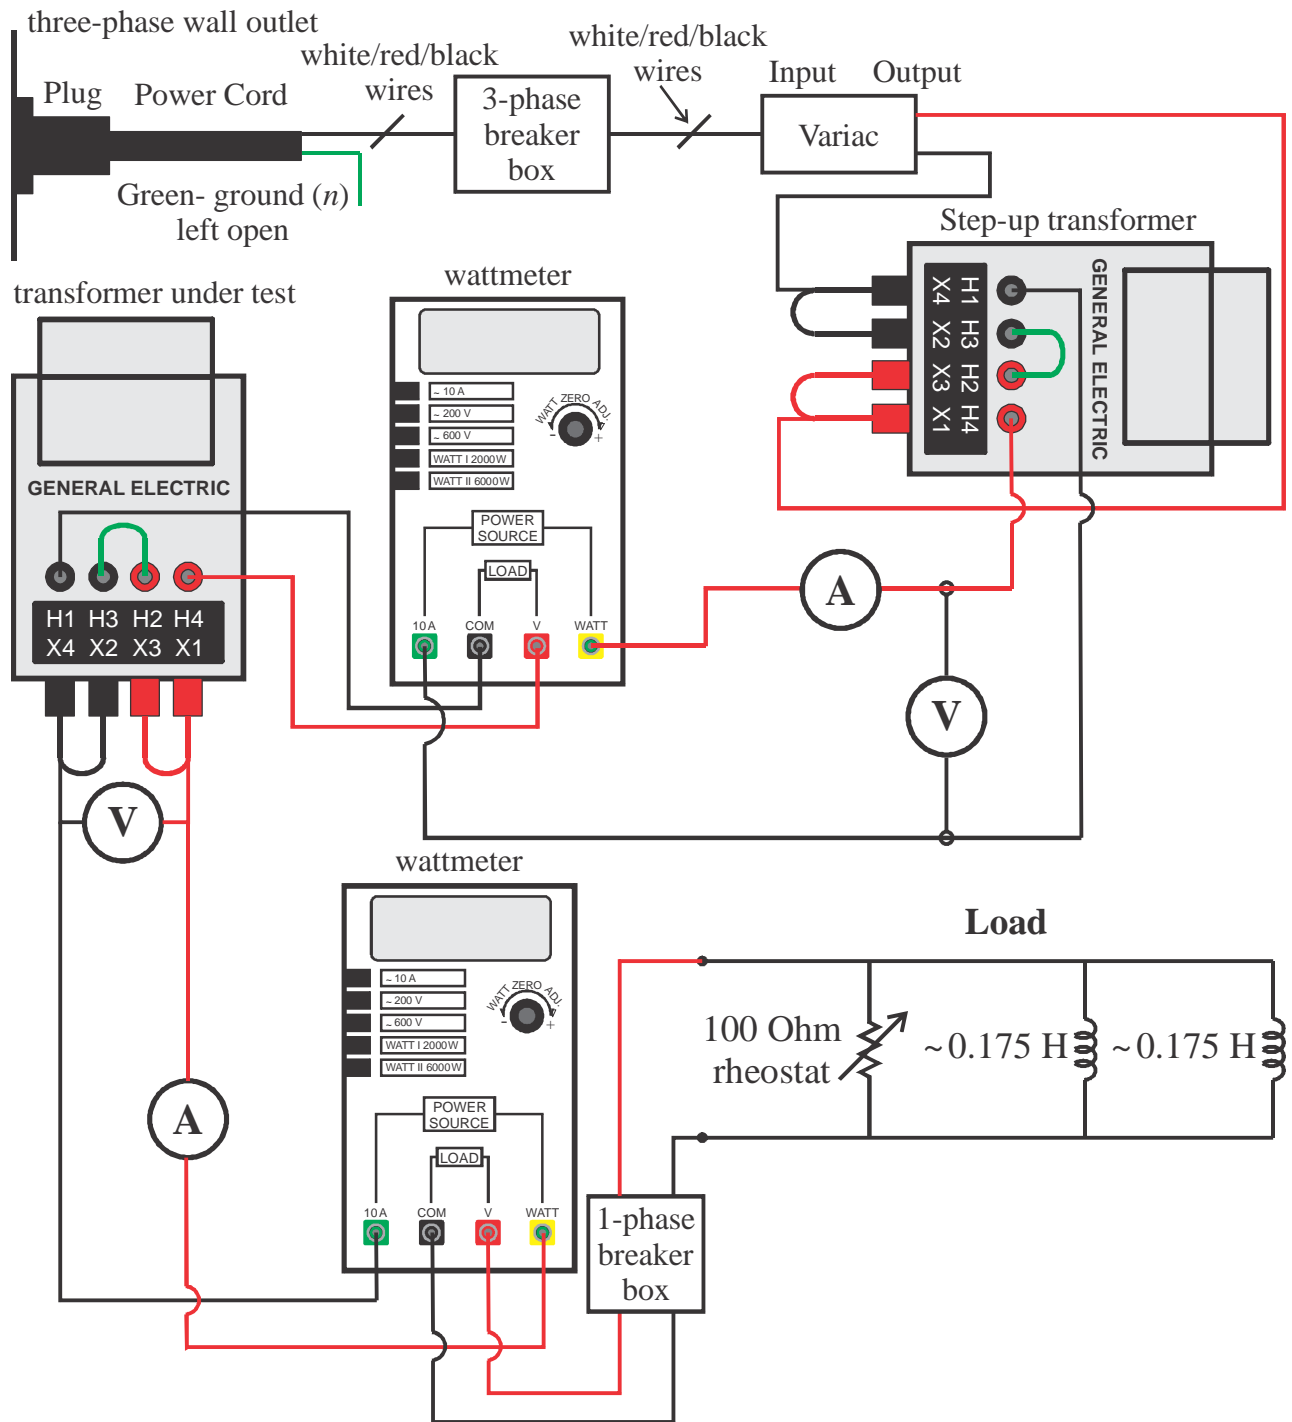

Figure 4 Transformer with load connected to low side.
- 1) In this test, a resistive-inductive load will be connected to the low side ($\sim 120 V_{\text{rms}}$) of the transformer. A block diagram of the necessary connections, including wattmeters and ammeters, is shown in Fig. 4. Connect the 100Ω rheostat so the resistance may be adjusted (i.e., use left two terminals) and adjust for maximum resistance (verify with ohmmeter). Do **NOT** plug in the power cord until all connections have been made, wattmeters have been zeroed, variac set to zero, and both breakers set to 'off'. After plugging in the three-phase power cord and setting the three-phase breaker to 'on' (leave single-phase breaker 'off'), slowly raise the applied voltage (w/ variac) until the low side is $\sim 120 V_{\text{rms}}$. Measure and record the voltages on the high $V_{\text{NL,high}}$ and low $V_{\text{NL,low}}$ sides.